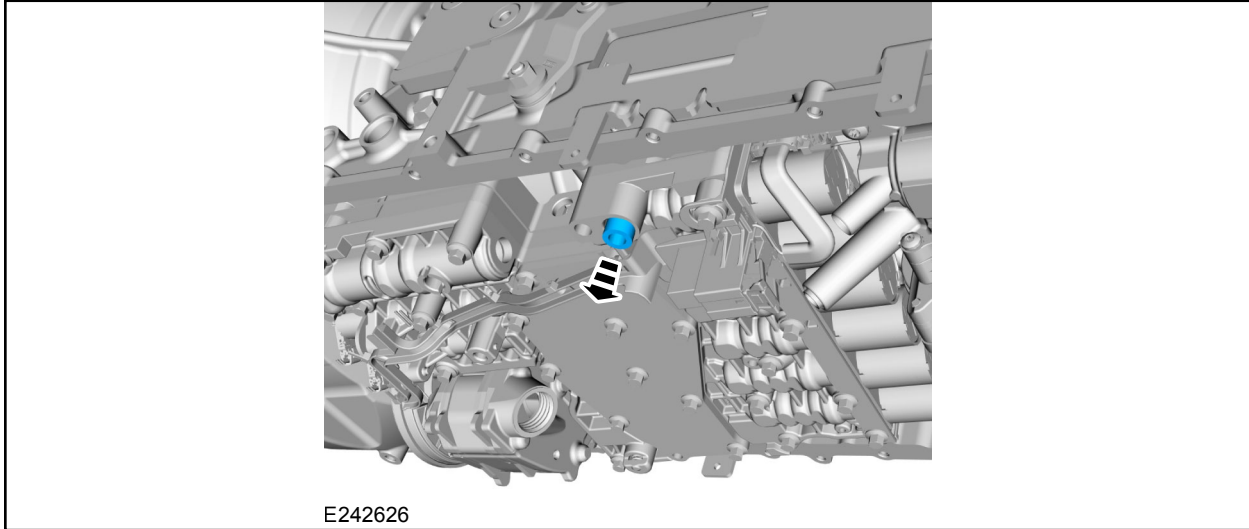

FIGURE 3
5. Remove the transmission fluid auxiliary pump tube seal. See Figure 3.